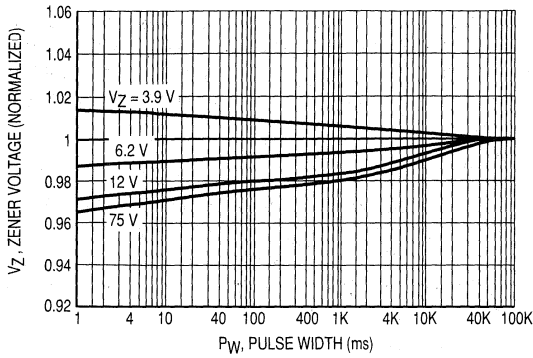
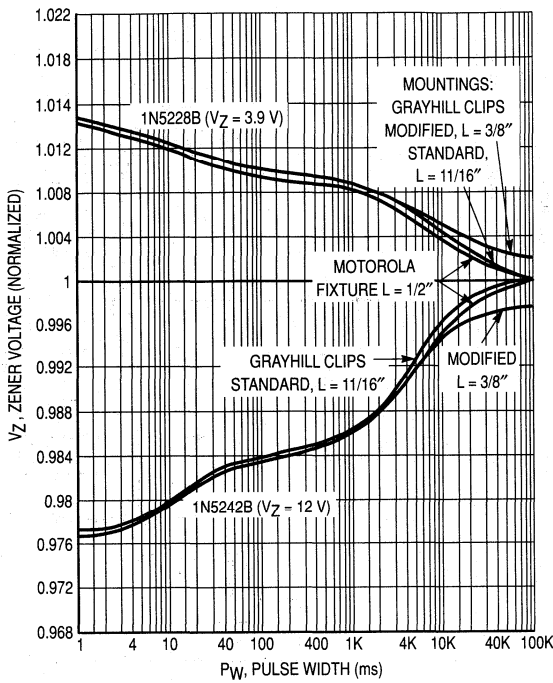
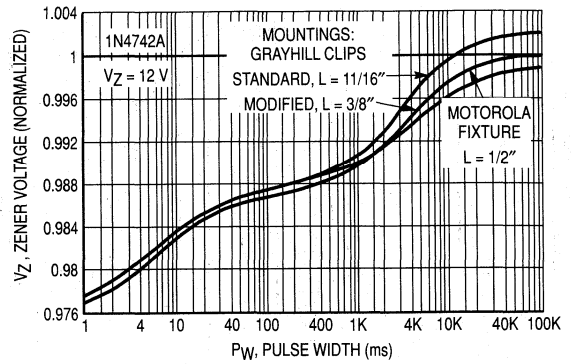

Figure 1. DO-35 (Glass) 500 mW Device
Figure 5. DO-35 (Glass) 500 mW Device
Figure 6. DO-41 (Glass) 1 Watt Device
Normalized V_Z versus I_{ZT} pulse width curves are shown in Figure 1 through 6. The type of heatsink used is shown or specified for each device package type. Obviously, it is beyond the scope of this paper to show curves for every voltage rating available for each package type. The object was to have a representative showing of voltages including when available, one diode with a negative temperature coefficient (TC).
For example, refer to Figure 5 which shows normalized V_Z curves for the axial lead DO-35 glass package. Three mounting methods are shown to show how the mounting effects device heating and thus V_Z . Curves are shown for a 3.9 V diode (1N5228B) which has a negative TC and a 12 V diode (1N5242B) having a positive TC.
In Figure 5, the two curves generated using the Grayhill mountings are normalized to V_Z at TE using the Motorola fixture. There is very little difference in V_Z at pulse widths up to about 10 seconds and mounting only causes a very small error in V_Z . The maximum error occurs at TE between mountings and can be excessive if V_Z is specified at TE and a customer measures V_Z at some narrow pulse width and does not use a correction factor.
Using the curves of Figure 5, V_Z can be calculated at any pulse width based upon the value of V_Z at TE which is represented by 1 on the normalized V_Z scale. If the
In using the curves of Figure 5 and 6, it should be kept in mind that V_Z can be different at TE for the three mountings because diode junction temperature can be different for each mounting at TE which is represented by 1 on the V_Z normalized scale. Therefore, when the correlation of V_Z between parties is attempted, they must use the same type of mounting or know what the delta V_Z is between the two mountings involved.
The Grayhill clips curves in Figure 6 are normalized to the Motorola fixture at TE as in Figure 5. Figures 1 through 4 are normalized to V_Z at TE for each diode and would be used as Figures 5 and 6.
Measurement accuracy can be affected by test equipment, power dissipation of the D.U.T., ambient temperature and accuracy of the voltage divider if used on the input of the first op-amp (U4). The curves of Figures 1 through 6 are for an ambient temperature of 25°C , at other ambients, θV_Z has to be considered and is shown on the data sheet for the 1N5221B series of diodes. θV_Z
FIGURES 1 thru 8 — Conditions: Single Pulse, $T_A = 25^\circ\text{C}$, $V_Z | Z_T = 1/4 P_D$ (Max) Each device normalized to V_Z at TE.